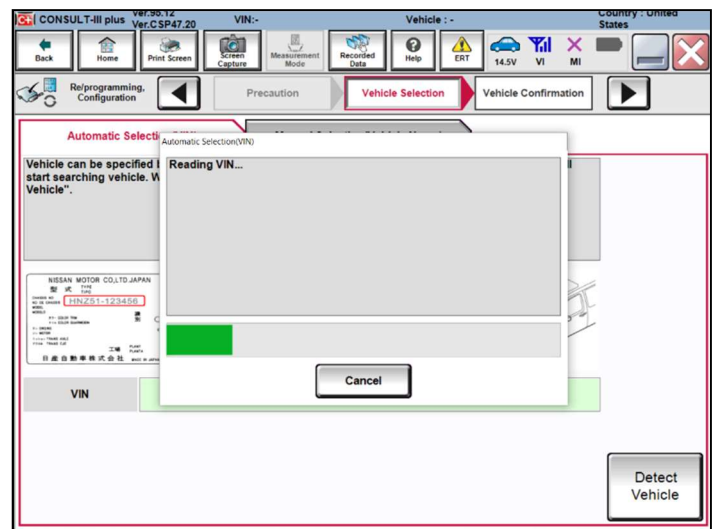

Figure 8
9. Perform Automatic VIN selection. (Figure 8)